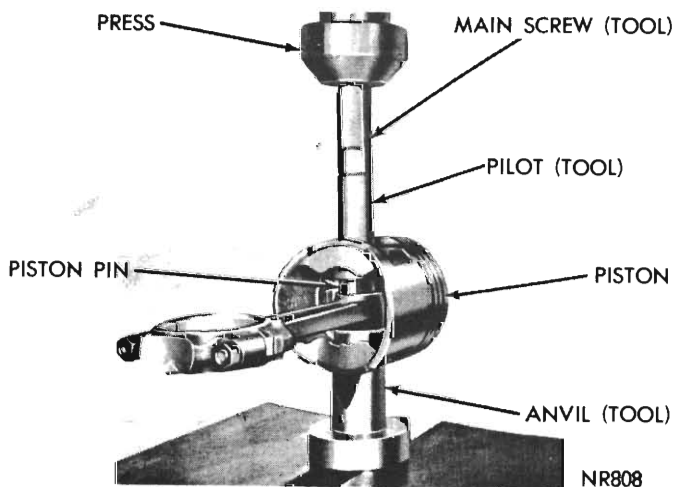

Fig. 38 - Removing piston pin (Tool E9C50B)
(5) Install nut loosely on the main screw and place the assembly on press (Fig. 38). Press the piston pin out of the connecting rod.